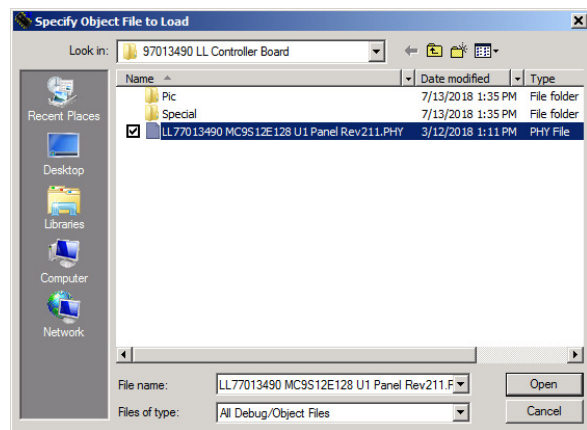

Figure 5
- 8) In the *Configuration and display command* screen double click “**SS Specify Object File**” and when prompted, browse to the folder location on your PC that has your copy of the firmware. Select the firmware file for your LightLEEDer board and Click “**Open**”, see Figure 5.